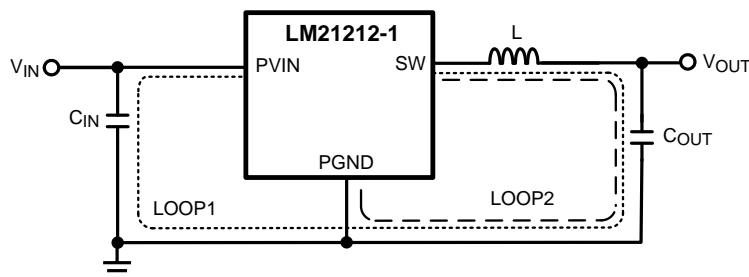

Figure 37. Schematic Of Lm21212-1 Highlighting Layout Sensitive Nodes
1. Minimize area of switched current loops. In a buck regulator there are two loops where currents are switched at high slew rates. The first loop starts from the input capacitor, to the regulator PVIN pin, to the regulator SW pin, to the inductor then out to the output capacitor and load. The second loop starts from the output capacitor ground, to the regulator GND pins, to the inductor and then out to the load (see Figure 37). To minimize both loop areas, the input capacitor should be placed as close as possible to the VIN pin. Grounding for both the input and output capacitor should be close. Ideally, a ground plane should be placed on the top layer that connects the PGND pins, the exposed pad (EP) of the device, and the ground connections of the input and output capacitors in a small area near pin 10 and 11 of the device. The inductor should be placed as close as possible to the SW pin and output capacitor.